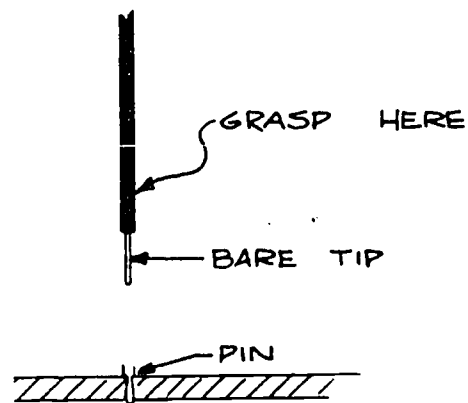

FIGURE 4:
5. Insert the wire by pushing the bare end straight into the pin connector (see Figure 4). If care is used, it should go in smoothly when you apply moderate pressure. If the wire end bends, cut off the bent part and re-strip the wire.